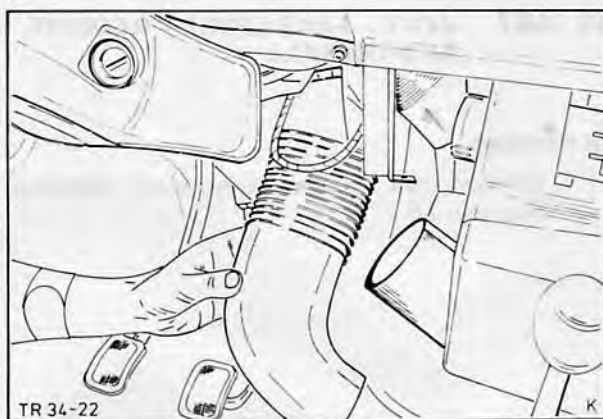

Fig. 25. Withdraw demister hose
1. Pull demister hose off heater housing and demister nozzle, Fig. 25.